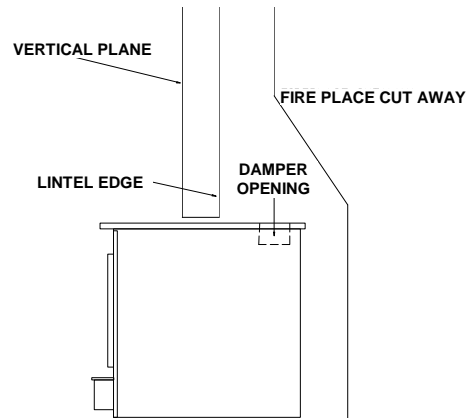

FIGURE 2 POSITIONING
(See Figure 2).
1. The front of damper opening must be positioned **BEHIND** rear edge of the lintel to ensure proper draft. (See Figure 2).